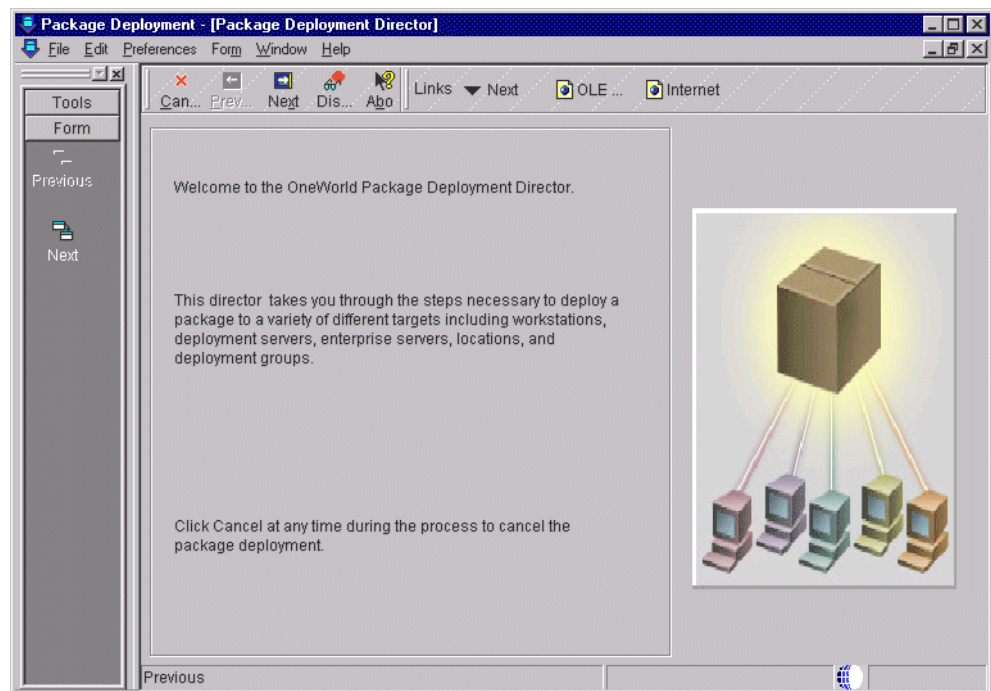

Figure 162. Package Deployment Director
2. Click **Add** to launch the Package Deployment Director. The Package Deployment Director form appears (Figure 162).